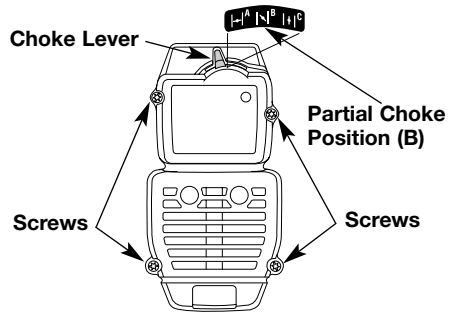

Fig. 31
**NOTE:** The choke lever must be in the **PARTIAL** choke position (**B**) (Fig. 31) to remove the air filter/muffler cover.
2. Remove the four (4) screws securing the air filter/muffler cover (Fig. 31). Use a flat blade or #20 Torx bit screwdriver.
**NOTE:** The choke lever must be in the **PARTIAL** choke position (B) (Fig. 31, Pg. 19) to install the air filter/muffler cover.
2. Insert the four (4) screws into the holes in the air filter/muffler cover (Fig. 31, Pg. 19) and tighten. Do not over tighten.